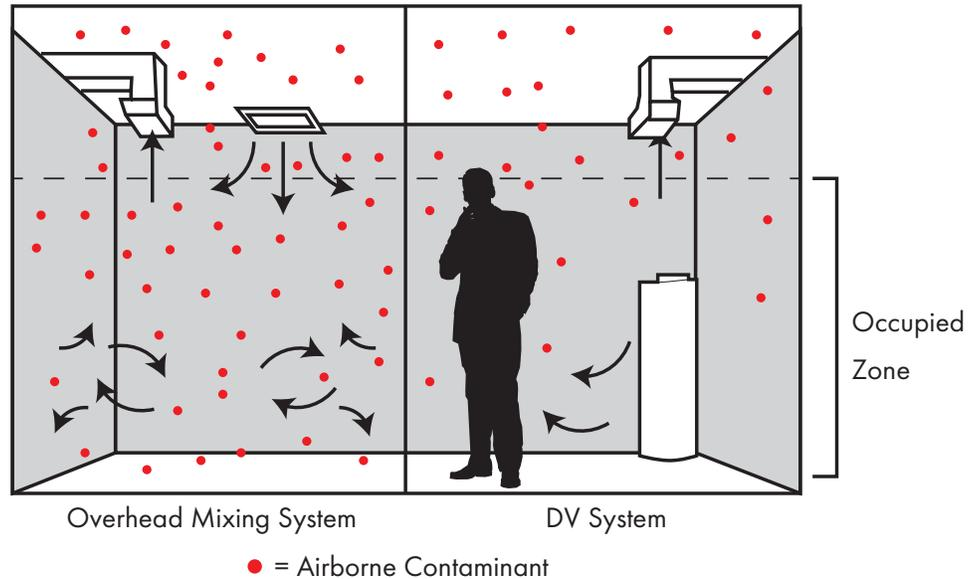

Fig. 4 - Mixing vs DV System
Overhead mixing systems utilize high velocity supply discharge air, typically delivered and exhausted at or near ceiling level **(Fig. 4)**. This high velocity discharge air creates a low pressure region at the outlet of the diffuser near the ceiling surface, causing induction of room air that mixes with the supply air jet. If designed properly, this constant mixing of room and supply air generates a near constant temperature gradient from floor to ceiling, resulting in a Zone Air Distribution Effectiveness (EZ) of 1.0 per ASHRAE 62.1. If not designed properly, potential disadvantages of all-air overhead mixing systems are: